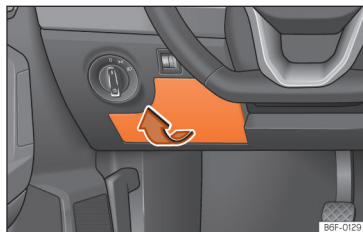

Fig. 168 On the dashboard on the driver side: lid of the fuse box.
- **Open:** remove the fuse box cover in the direction indicated >>> **Fig. 168**.